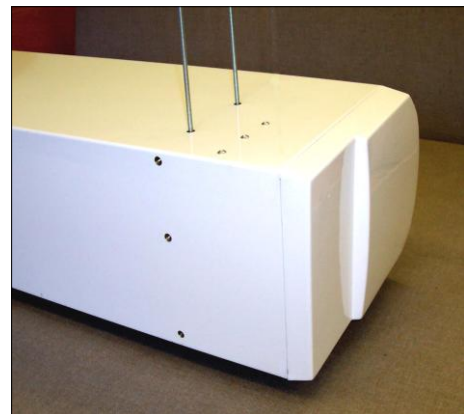

Fig 3
- Step 1** Screw the threaded rods into all of the holes in the top face of the unit as shown in Fig 3.